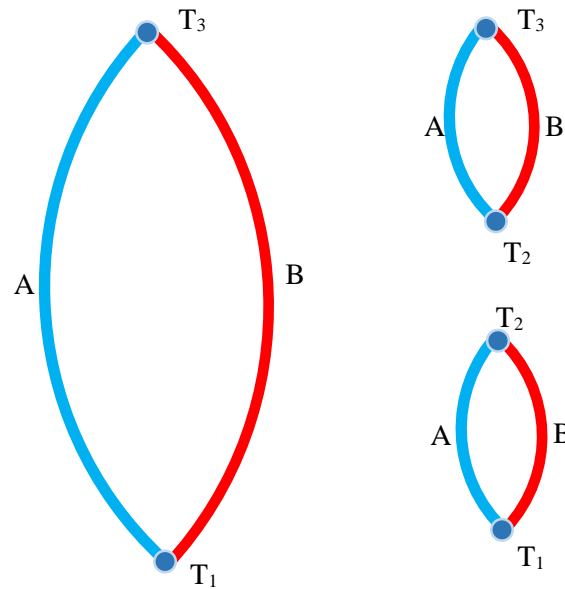

Fig. 3
(1) Law of Intermediate Metals: The presence of an additional metal into any Circuit does not alter the whole e.m.f. in the circuit, provided the additional metal is at the same temperature of the point at which it is inserted.
(2) Law of Intermediate Temperatures: The e.m.f. of a couple with junctions at T_1 and T_3 is the sum of the e.m.f. of two couples of the same metals, one with junctions at T_1 and T_2 and other at T_2 and T_3 as shown in Fig. 3. In other words, e.m.f.